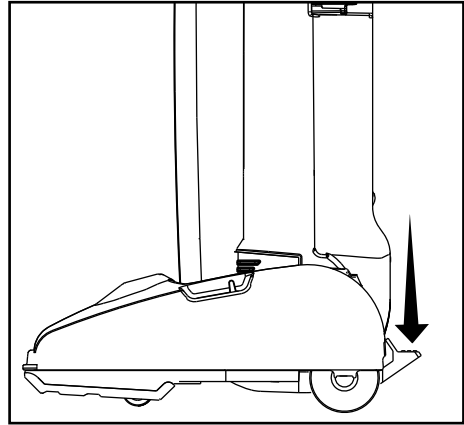

Fig. 1
- Press the Handle Release Pedal once for normal vacuum cleaning (Fig. 1).